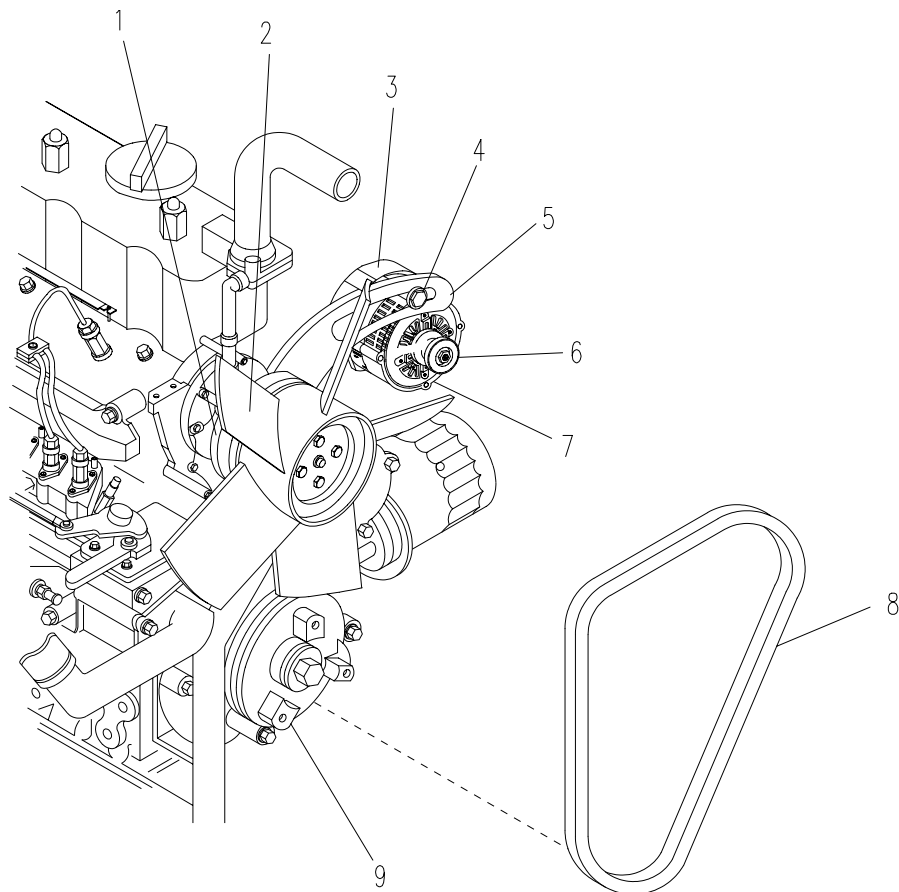

Figure 4-10. Fan Belt
Inspect fan belt (8, Figure 4-10) for wear. Fan belt (8) should be flush with top of groove in each pulley (1, 6, and 9). If fan belt (8) is not flush with top of groove in each pulley (1, 6, and 9), replace fan belt (8).